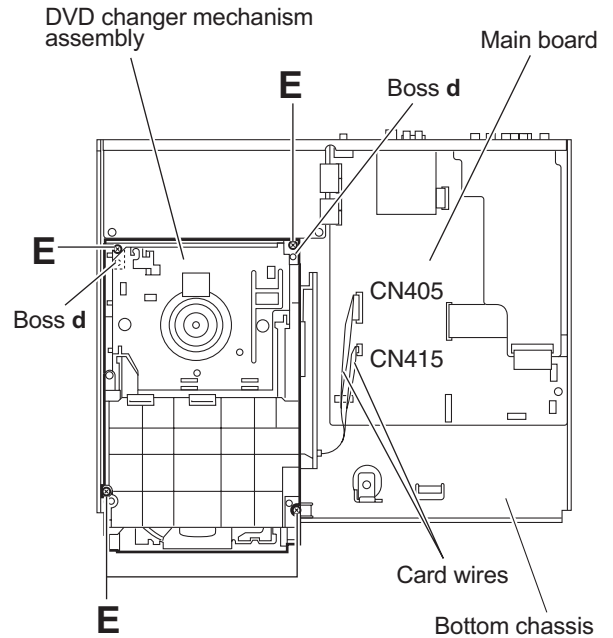

Fig.7
3.1.3 Removing the DVD changer mechanism assembly (See Fig.7)